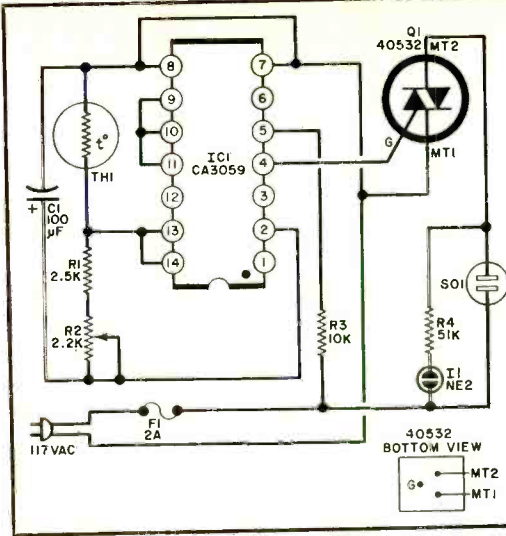

Fig. 1. Only a few external components are needed with IC1 to make control.
**Theory of Circuit Design.** The CA3059 is a fairly unique integrated circuit. In addition to its triggering circuit, the IC also contains a power supply and a differential amplifier. This minimizes the external circuitry to a handful of components as can be seen in Fig. 1.